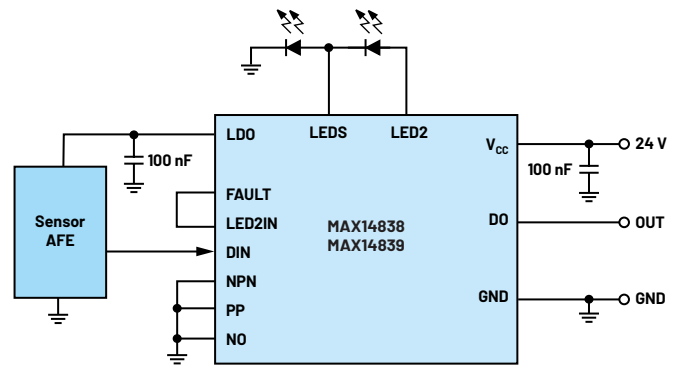

Figure 2. A 24 V pin-configurable industrial sensor output driver.
Binary sensors have only two states: on or off. Examples of binary sensors are pressure switches, temperature switches, through-beam photoelectric sensors, proximity sensors, and pushbuttons. Binary sensor output drivers, such as the MAX14838/MAX14839 (Figure 2), are 24 V/100 mA drivers optimized for use in industrial sensors. These devices integrate the high voltage (24 V) circuitry commonly found in industrial sensors, such as a configurable or pin-selectable PNP/NPN/push-pull driver and an integrated linear regulator that meets common sensor power requirements. The output driver interfaces between the sensor or sensor microcontroller unit (MCU) and the digital input (DI) module of the PLC.